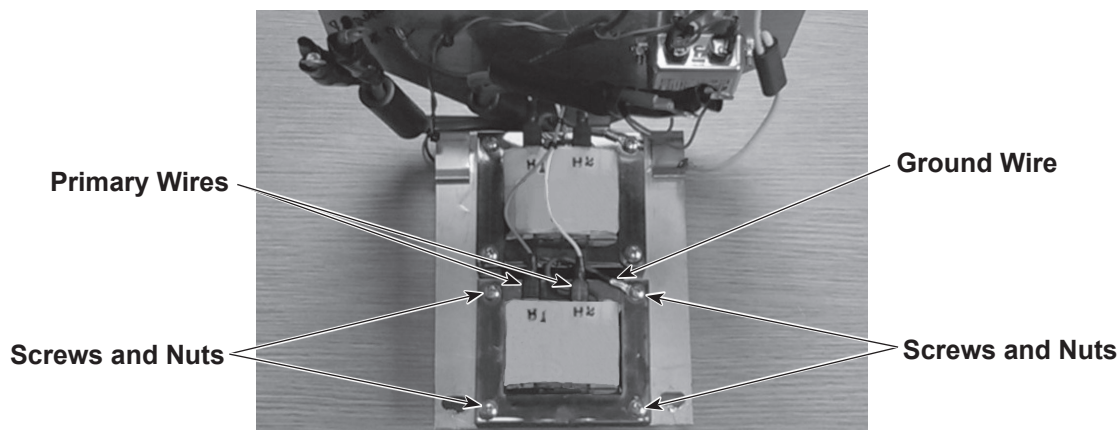

Figure 6-21 Transformer Removal
5. See Figure 6-21. Note the colors of the primary wires connected to the transformer H1 and H2 terminal tabs, then disconnect the wire receptacles from the tabs.